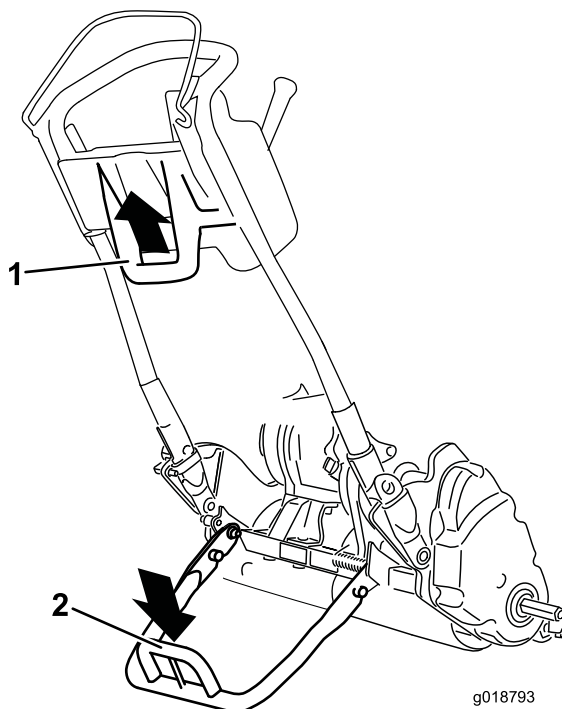

Figure 22
- To use the kickstand to install the transport wheels, lower the kickstand to the ground and step down on the loop while pulling up and back on the lower-center handle (Figure 22).